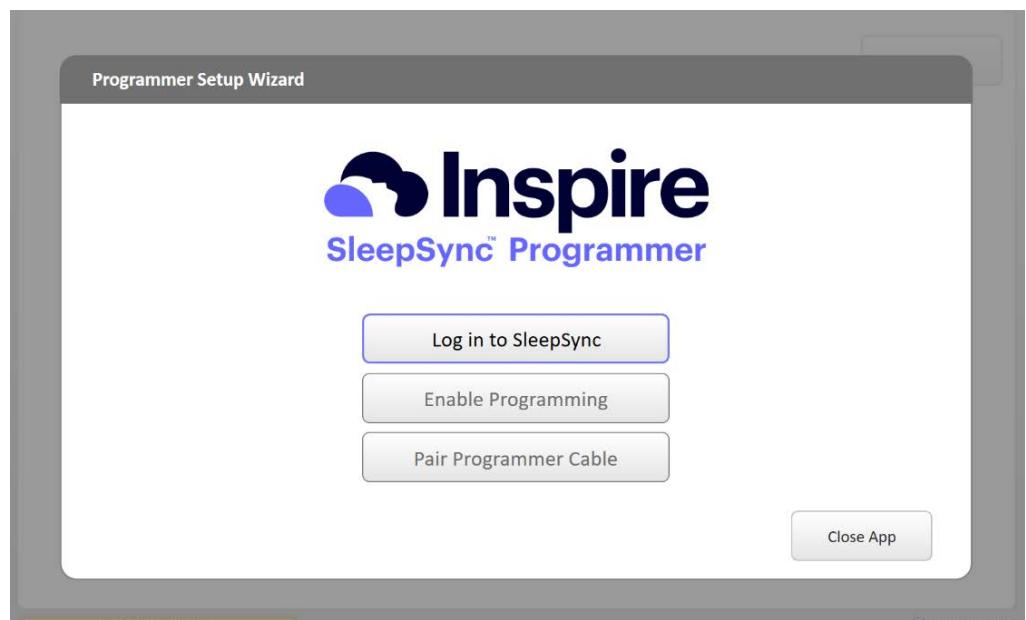

Figure 3-1. Setup Wizard Screen
- c. After you launch the application, the Setup Wizard screen displays (Figure 3-1). Select the **Log in to SleepSync** button.